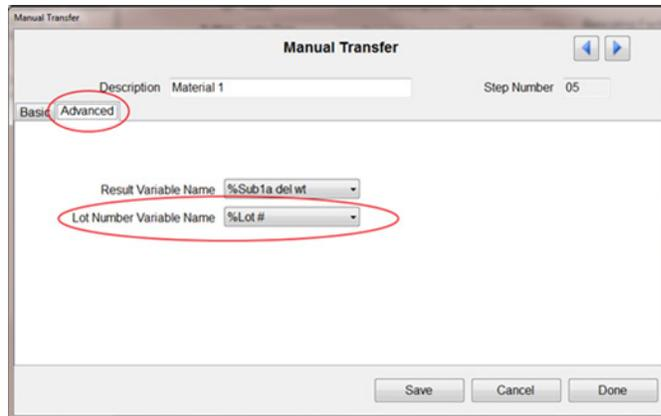

Figure 14-14: Associating the Batch Variable with a Material
3. Once the Lot number is entered and stored in a Batch Variable, the variable must be associated with a specific material in the recipe. To do this, select the appropriate material transfer phase in the recipe, and click on the Advanced tab (Figure 14-14). In the Lot Number Variable Name field, select the name of the Batch Variable used to store the entered Lot number.